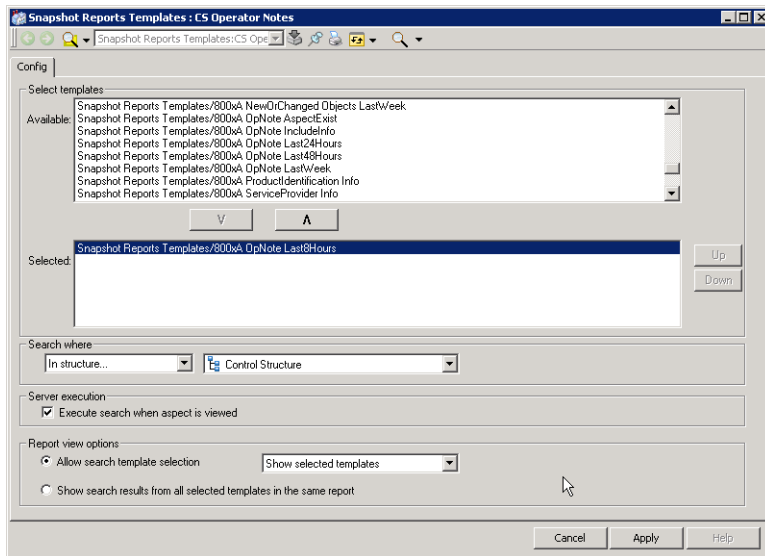

Figure 23. Choose a template to include
3. Select one of the presented Snapshot Report templates as shown in Figure 23.